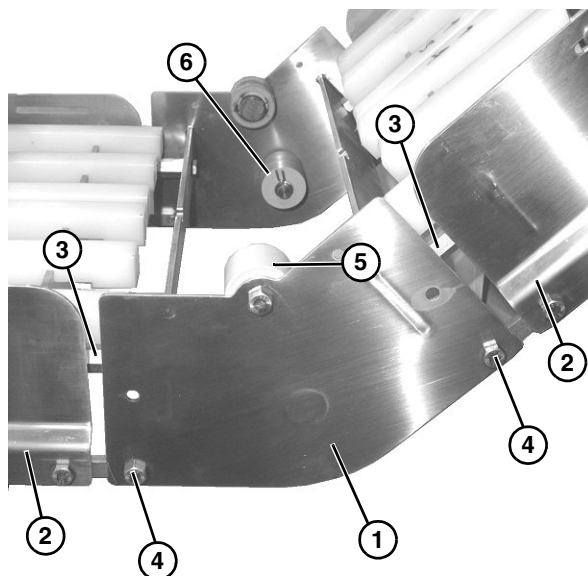

Figure 21
2. Attach lower knuckle (**Figure 21, item 1**) to frame (**Figure 21, item 2**) with hex rods (**Figure 21, item 3**), and bolts (**Figure 21, item 4**).
3. Install hold down sleeve bearing (**Figure 21, item 5**), and secure with cap screw. Repeat on opposite side.
4. Install return sleeve bearing (**Figure 21, item 6**), and secure with clamp. Repeat on opposite side.